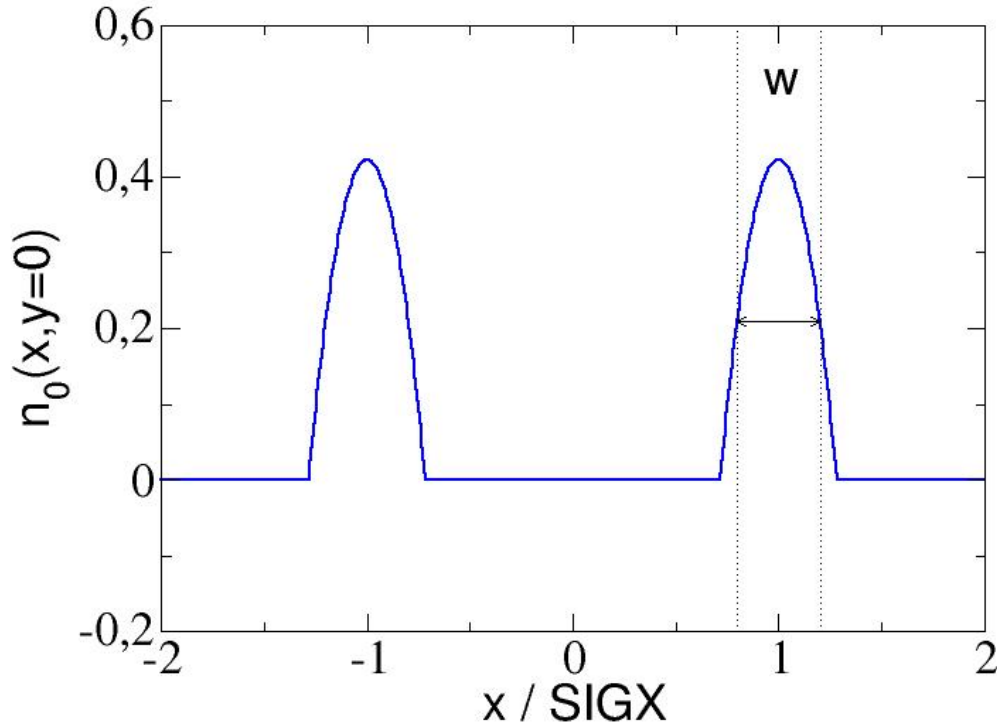

Figure 10.3: Hollow parabolic shape of radial density for beam-beam lens.
- **BBSHAPE=3**: hollow-parabolic shape (see fig.10.3). **SIGX**, **SIGY** are the distances from the centre to the maximum of the parabolic density profile in horizontal and vertical directions. Only circular opposite beam is possible, *i.e.* in the calculations  $SIGX' = SIGY' = (SIGX + SIGY) / 2$  is used, if **SIGX** and **SIGY** have different values. **WIDTH** denotes the full width at half maximum of the parabolic density